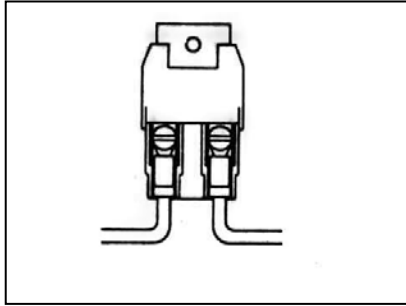
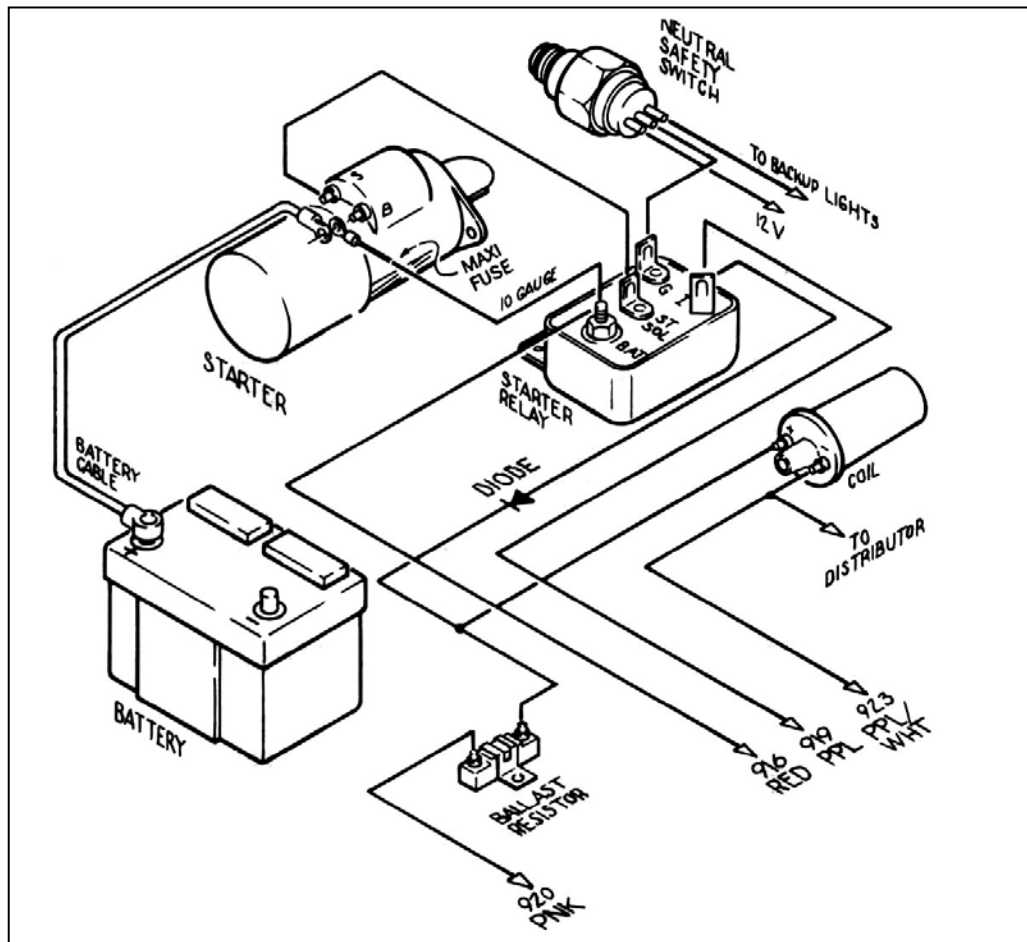

Figure 7-3 Maxi Fuse
Figure 9-2 Mopar Ignition (Start/Run) System
- 7.4.1 With crimping tool, attach Maxi Fuse (**Figure 7-3**) onto end of ENGINE SECTION A (single) 10 ga. wire #916 (red) AFTER having routed wire from the Fuse Panel to the Starter Solenoid. This serves as a fuse to protect the entire harness. DO NOT OMIT IT!
- 8.2.1 With crimping tool, attach the Maxi Fuse (**Figure 7-3**) onto end of ENGINE SECTION A (single) 10 ga. wire #916 (red) AFTER having routed wire (with or without ammeter) from the Fuse Panel to the Starter Relay. This serves as a fuse to protect the entire harness. **DO NOT OMIT IT!**
9.2 Mopar Ignition (Start/Run) System. See Figure 9-2
- 9.2.2** With crimping tool, attach the Maxi Fuse (**Figure 7-3**) onto remaining length of red 10-gauge wire. It serves as a fuse to protect the entire harness. DO NOT OMIT IT! Connect this wire from the Starter Motor Battery terminal, as shown in **Figure 9-2**. USE ONLY 10-GAUGE WIRE.
- 9.2.4** Connect a 14-gauge wire from the Starter Relay Ground (G) terminal to the center terminal of the transmission mounted Neutral Safety Switch. Older Mopar neutral safety switches have only one terminal. On newer switches, the two outside terminals are for backup lights. Use existing wiring to connect these two terminals as shown in **Figure 9-2**.
- 9.2.8** Connect a 14-gauge wire from the Starter Relay Ignition (I) terminal to the ignition coil side of the Ballast Resistor. This wire serves as a ballast resistor BYPASS during engine starting. You must add a diode (8 amp min., 100 PIV) to this wire as shown in **Figure 9-2**. If you are not using a ballast resistor, do not connect this wire.